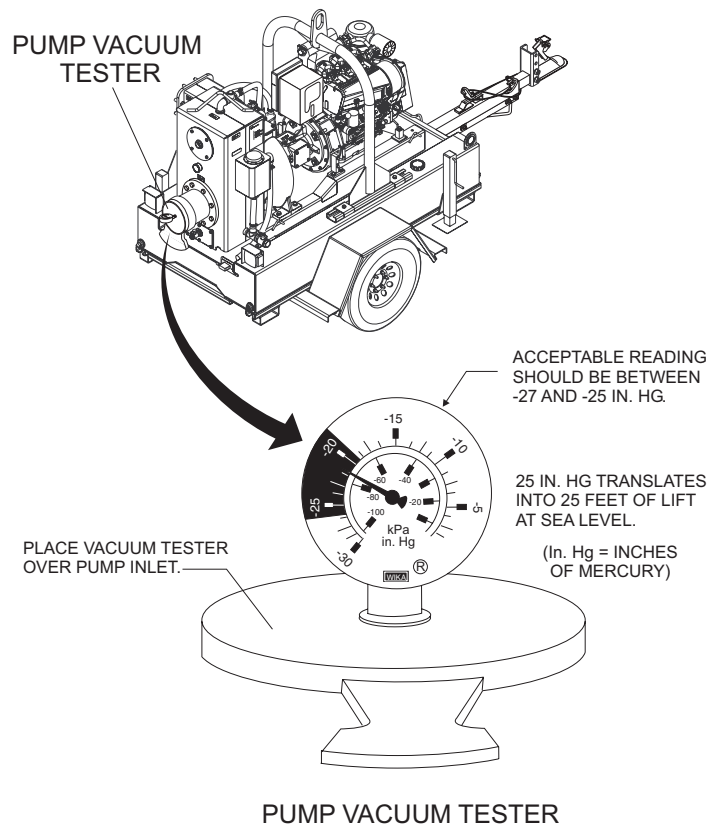

Figure 12. Dry Pump Vacuum Test
2. Block the suction with a plug or heavy rubber flap as shown in Figure 12. An accurate vacuum gauge should be installed in the plug or flap to check vacuum system performance and pump vacuum gauge.